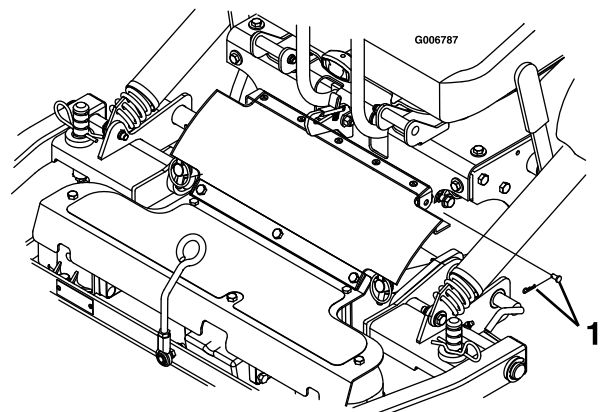

Figure 69
7. Remove the hairpin cotter and clevis pin from both sides of the PTO guard (Figure 69).
6. Align the upper portion of the rubber PTO guard to the tabs on the front of the console and secure with a clevis pin and hairpin cotter on each side (Figure 69).